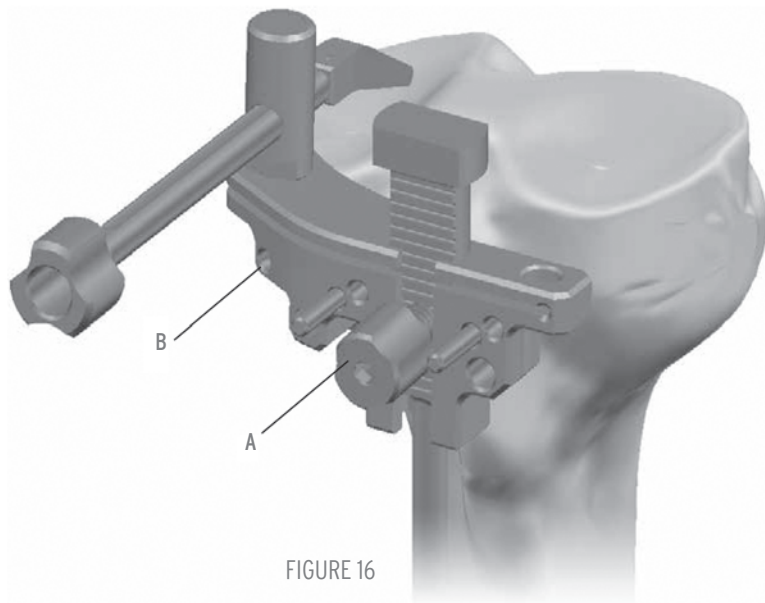

FIGURE 16
Position the ankle clamp of the extramedullary (EM) tibial resection guide against the lower leg just proximal to the malleoli. | FIGURE 15 In case a more stable initial fixation is required, the EM tibial resection guide can be assembled using the spiked component. Slide the appropriate left or right tibial resection guide onto the guide and adjust the guide until the resection slot is located a few millimeters below the lowest articular surface. | FIGURE 15 When the vertical axis of the guide is parallel to the mechanical tibial axis, it is positioned for a 3° posterior sloped resection. Attach the external alignment guide and slide the alignment rod through the appropriate TL or TR (Tibia Left or Tibia Right) hole. If the rod is parallel to the tibia, 3° slope is confirmed. | FIGURE 16
Drop the 2mm/10mm stylus into one of the holes on the resection guide and turn the resection guide adjustment knob | A in FIGURE 16 until the proper resection is found. | FIGURE 16 Generally the stylus is set to resect 2mm from the most deficient side and/or 10mm from the most prominent. Pin the resection guide to the proximal tibia through the “std” holes. The alignment guide and rod can be used to check alignment to the ankle. If the resection guide is detached, it can be moved distally 2mm if headless pins are used. Use of a divergent pin is recommended to prevent the resection block from vibrating off the pins during resections. | B in FIGURE 16